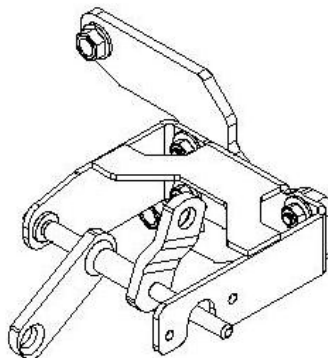

Figure 8
50. Locate transfer case linkage u-bracket, mounting plate, and hardware kit 119 (figure 8)